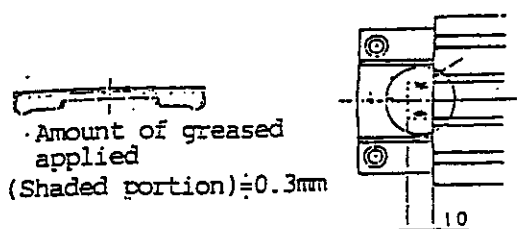

Fig.1
1. The dust seal band for replacement should be added the process of drawing 2 and greased wholly as shown in figure 1.